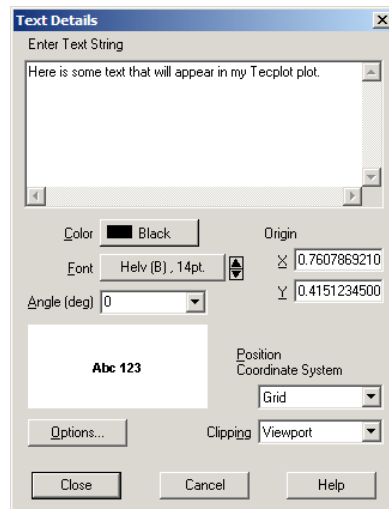

Figure 16-3. The Text Details dialog.
2. Click anywhere in a frame to indicate the location of the text. The Text Details dialog appears, as shown in Figure 16-3.